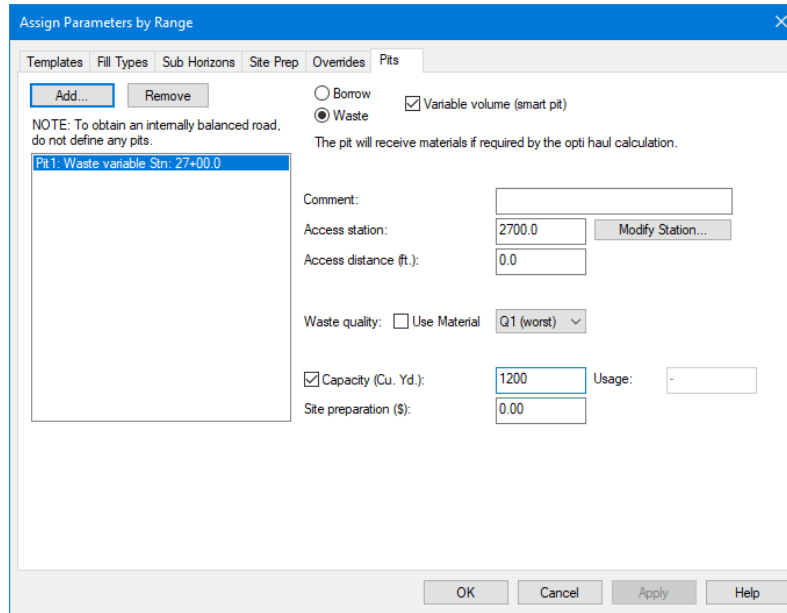

Figure 8-6: Assign Parameters by Range /Pits
16. Enter **1200** for *Capacity (Cu. Yd)* (see Figure 8-6 below).